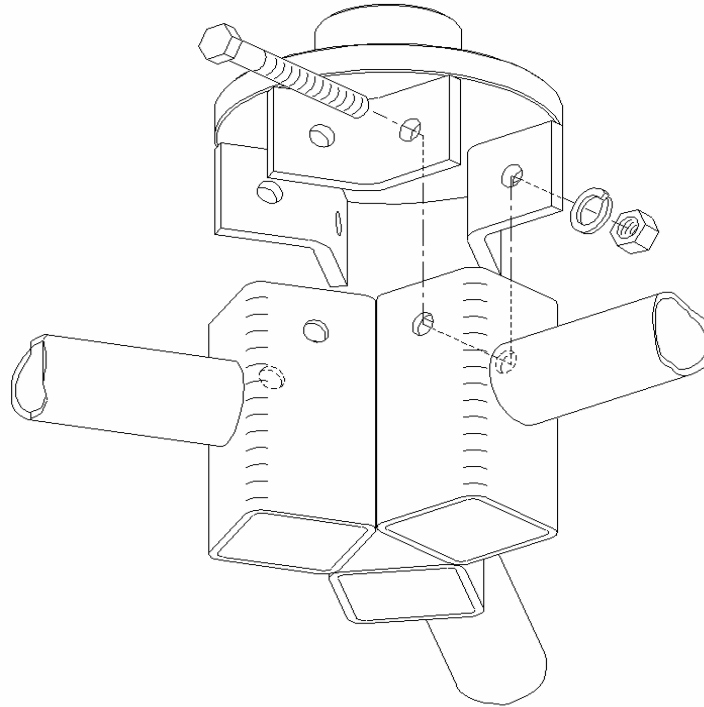

Figure 11
3. Attach upper flange to other end of rotor assembly using the same type hardware; three screws 3/8" - 16 X 3", three lock washers, and three nuts. Repeat for right and left side rotor assemblies. See Figure 11.